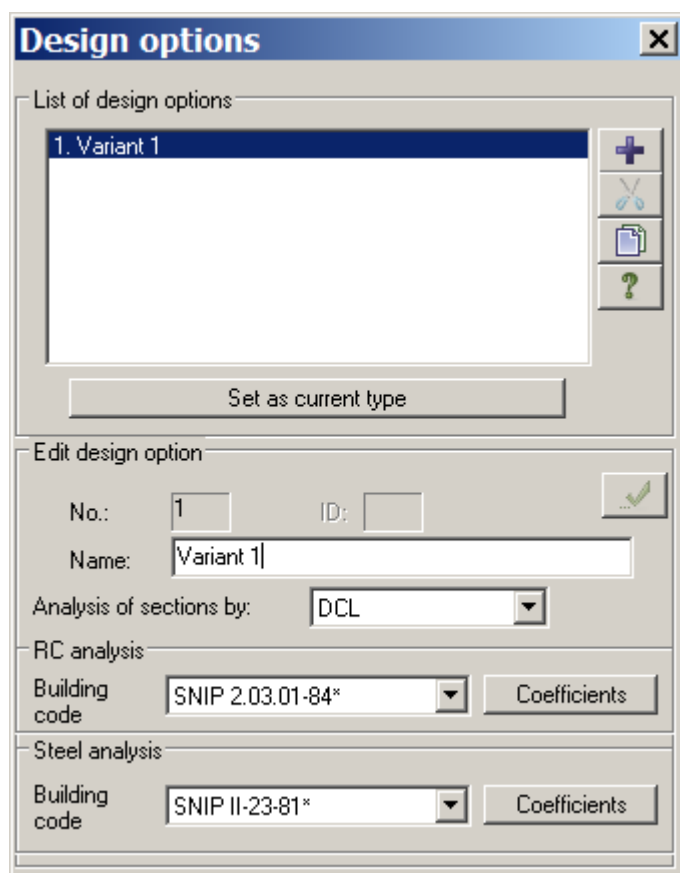

Figure 3.8 **Design options** dialog box
- ⇒ In the **Design options** dialog box (see Fig.3.8), define parameters for the first design option: